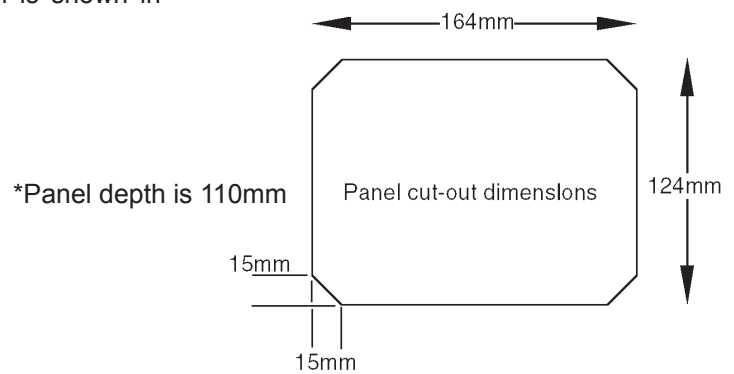

Figure 15 - Control panel.
A 'Y' harness (Figure 11) is available, with a male plug at (1) and two female plugs (2). If necessary, more than one 'Y' harness may be used, to connect several instrument panels together, in any of the combinations shown on Figure 15.
The 'Control Panel' shown in Figure 15 includes:-